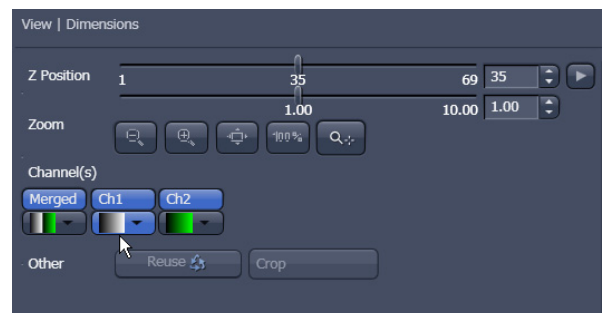

Fig. 23 View Dimensions Control Block
- In the **View – Dimensions** View Option Control Block, click inside the color field in the  button under the channel button (Fig. 23).